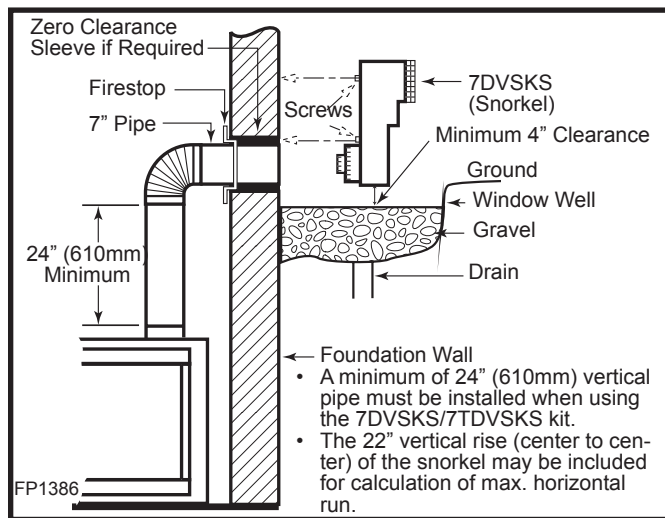

Fig. 27 Below grade installation.
2. Remove soil to a depth of approximately 16" (406mm) below base of snorkel. Install drain pipe. Install window well (not supplied). Refill hole with 12" (305mm) of coarse gravel leaving a clearance of approximately 4" (100mm) below snorkel. (Fig. 27)
7. Level the soil so as to maintain a 4" (100mm) clearance below snorkel. (Fig. 27)